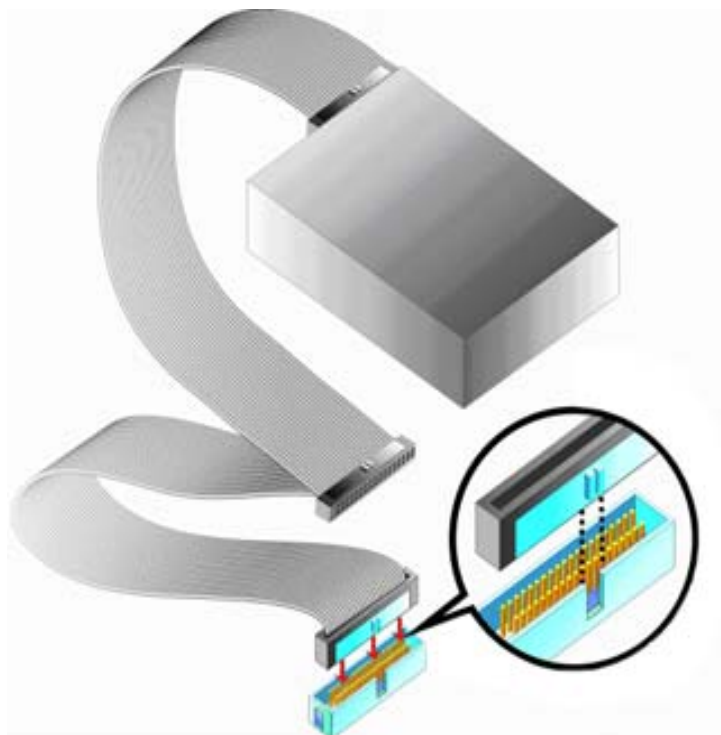

Figure 5-7: IDE Cable Connection
Step 2: Insert the connector. Connect the IDE cable connector to the onboard connector. See **Figure 5-7**. A key on the front of the cable connector ensures it can only be inserted in one direction.